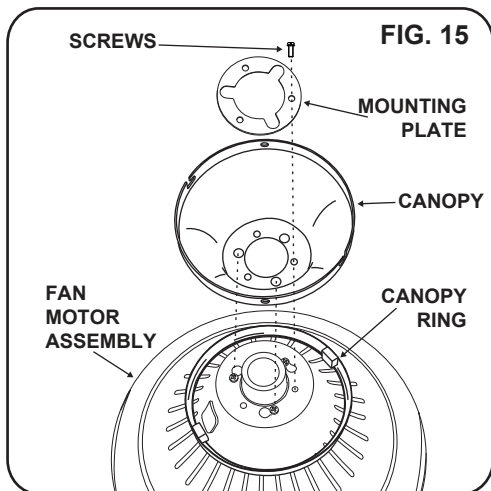

FIG. 15
Step 4. Place the canopy ring and the canopy over the coupling. Attach the canopy to the fan motor assembly using the three screws and the mounting removed in step. 3 (Fig. 15)